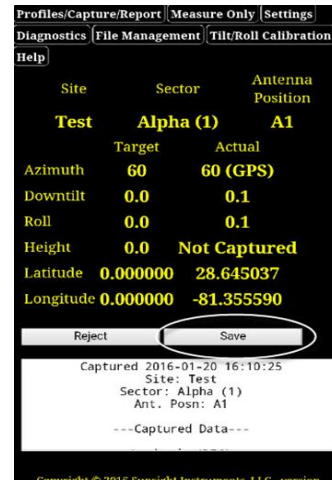

Figure 4-4
- a. After initial capture, user should review results and then save or reject alignment results. See Figure 4-4.